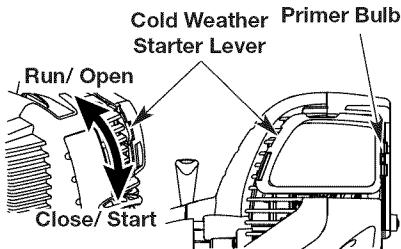

Fig. 7
IF COLD... For cold weather conditions (below 40°F), flip the Cold Weather Start Lever (Fig. 7) down to the start/closed position and continue to step 3. DO NOT flip this lever down if the temperature is above 40°F.
- 3. Fully press and release the primer bulb 10 times, slowly. Some amount of fuel should be visible in the primer bulb (Fig. 7). If you can't see fuel in the bulb, press and release the bulb as many times as it takes before you can see fuel in it.